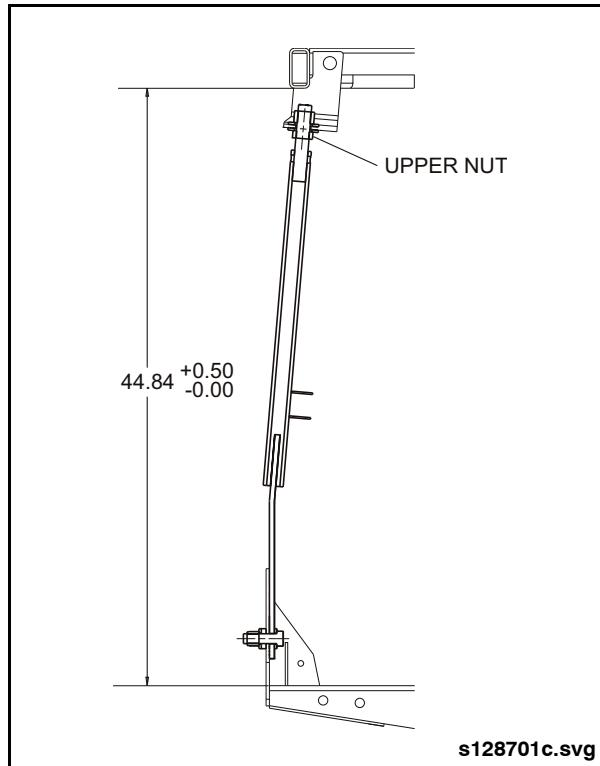

Fig. 4-12: Engine Strut Tensioning
6. Measure the distance between the lower frame rail and upper vehicle structure. See "Fig. 4-12: Engine Strut Tensioning" on page 16.